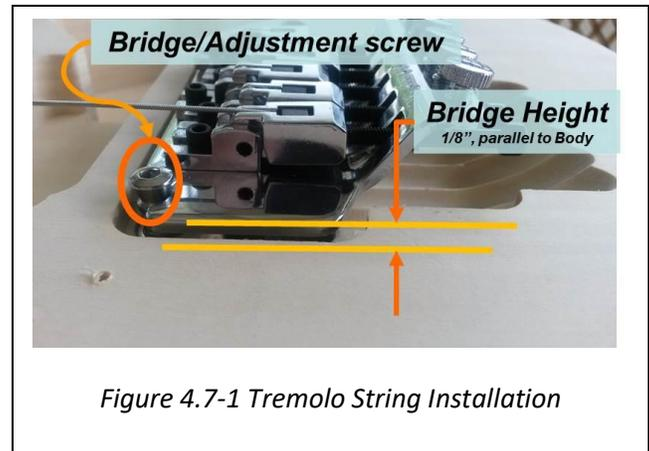

Figure 4.7-1 Tremolo String Installation
2. While holding the bridge assembly by the string locking bolts, use the 3mm Allen wrench to adjust the initial height of the bridge base so that it is approximately 1/8” above the Body. Ensure that the base notches are in the collared head of the adjustment screw (Fig. 4.7-1);
3. Carefully uncoil each of the strings (6), ensuring that the stings do not have a kink;